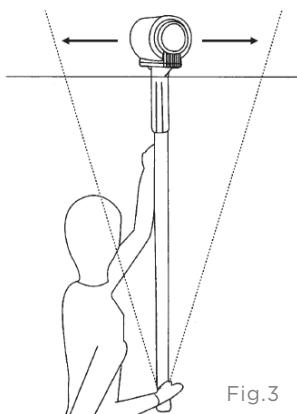

Fig.3
4. When using the pole, always ensure you are positioned directly under the weight of the roller (Fig.3).